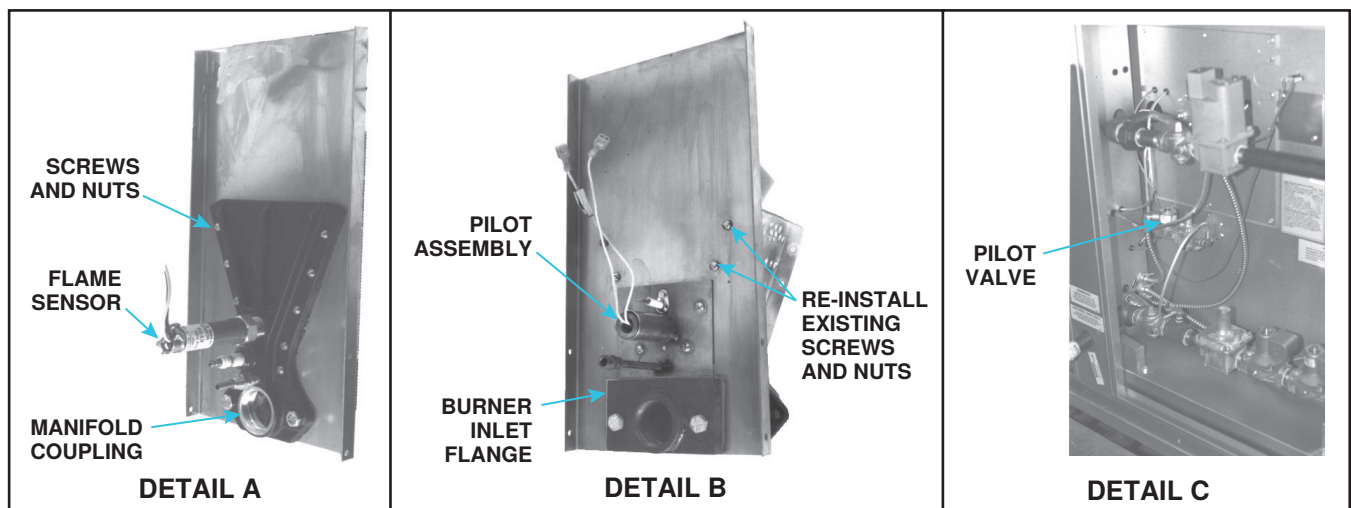

Figure 58. Burner Compartment Component Replacement
- Remove and two screws that secure manifold to existing cast iron burner end plate (see Figure 58, DETAIL A). Disconnect manifold from burner end plate at coupling and pilot tubing from pilot.
- Remove flame sensor (see Figure 58, DETAIL A).
- Remove and save ten screws and nuts (see Figure 58, DETAIL A) that secure existing end plate(s) to burner. Remove complete end plate assembly—including stainless steel end plate if used—with existing pilot assembly.
- Position replacement end plate on end of burner and secure using two existing screws and nuts as shown in Figure 58, DETAIL B.
- Secure burner inlet flange using capscrews, hex nuts, and graphite paste from kit as shown in Figure 58, DETAIL B. Fasten tightly.
- Secure replacement pilot assembly to end plate and burner as shown in Figure 58, DETAIL B. Fasten tightly.
- Connect pilot tubing to pilot valve (see Figure 58, DETAIL C) and to pilot assembly.